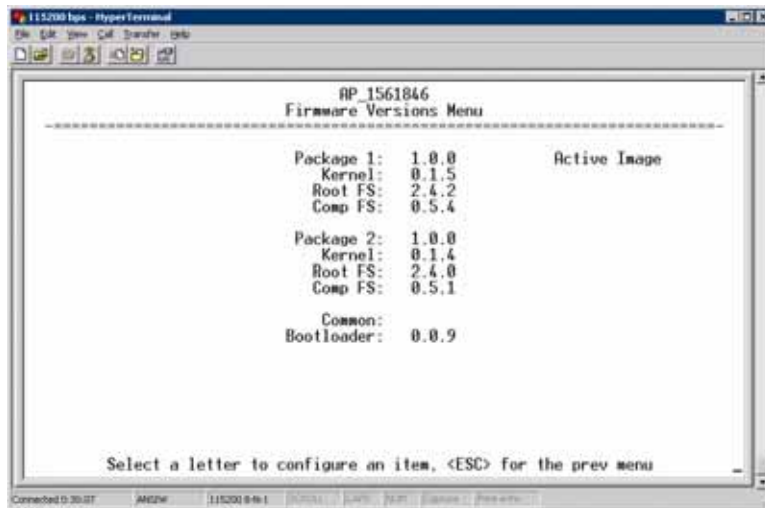

Figure 3-101. Firmware Versions Menu
- **Firmware Versions**—Shows the firmware code versions stored in the radio and indicates which one is the active image. (See Figure 3-101 on Page 124.)